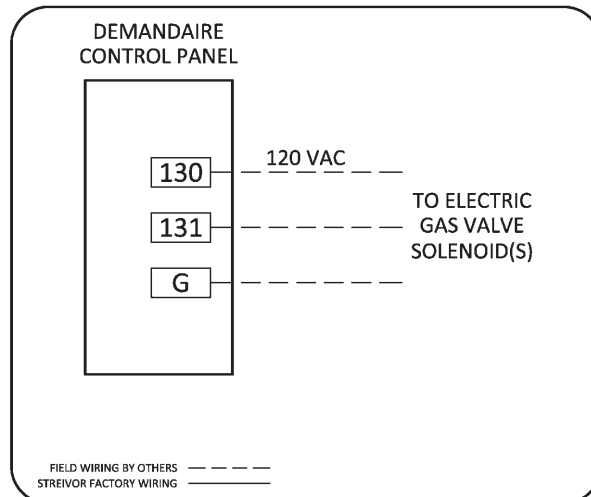

FIGURE 16: Electric Gas Valve Circuit Output Power Wiring
- Connect 120 VAC single phase power from terminal block *130*, *131*, and *ground* in the control panel to the corresponding pre-wired leads on the electric gas valve solenoid(s) (Figure 16).